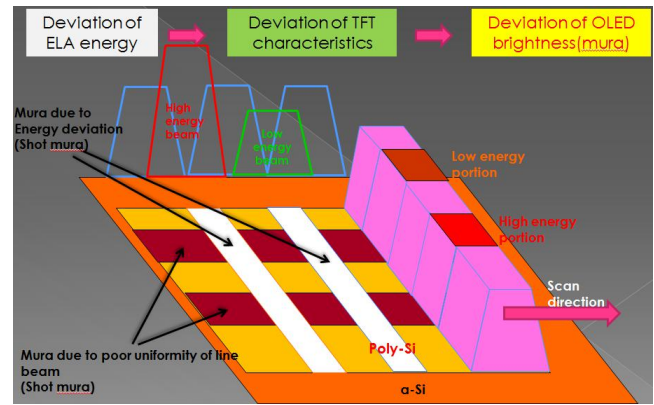

Figure 12. Shot and scan Mura
3.1.2.ELA Mura - shot and scan mura: (figure 12)